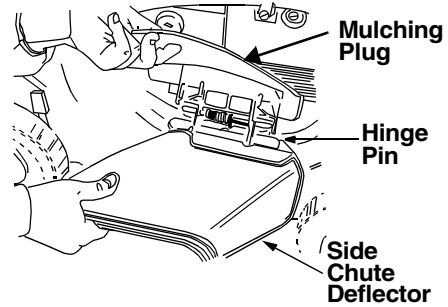

Figure 5
- Your mower has been shipped as a mulcher. To convert it to a side-discharge mower, lift the mulching plug. Slide the two hooks on the side-discharge deflector under the hinge pin on the mulching plug assembly. Lower the mulching plug. See Figure 5